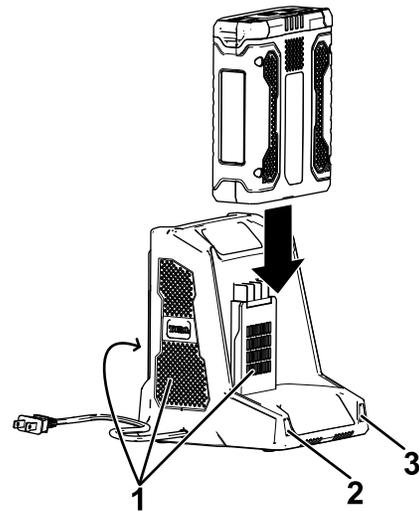

Figure 10
3. Line up the cavity in the battery pack (Figure 10) with the tongue on the charger.
5. Slide the battery pack into the charger until it is fully seated (Figure 10).